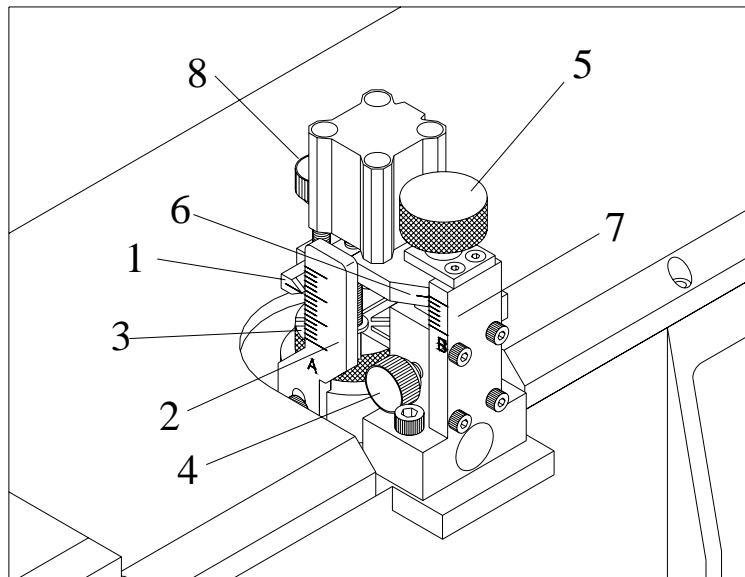

Fig.4
3.7.1 Basic gathering rate setting (Fig.4)
3.7.2 First increase gathering rate setting (Fig.4)
3.7.3 Correction gathering rate setting (Fig.4)